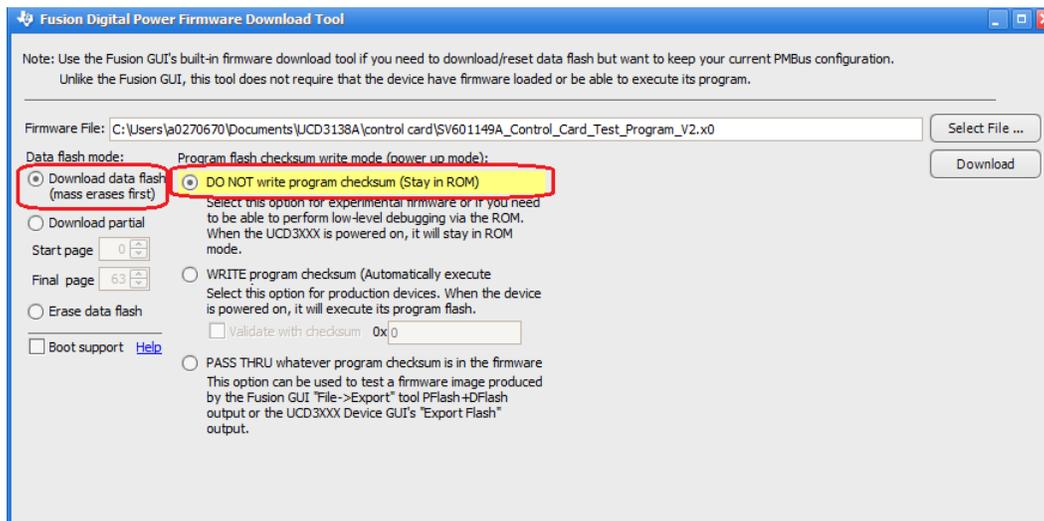

Figure 7. Firmware Code Downloading
4. Click **Firmware Download**; then a new window appears as shown in Figure 7. Click **Select File** and browse an intended firmware code file with file extension **.x0** (eg. **cyclone.x0**), then click **Download**. The firmware of **cyclone.x0** will be downloaded to the UCD3138A device on the UCD3138ACCEVM149 EVM. When prompted, click **Yes** to complete the download. Click **Close** to exit the download window.